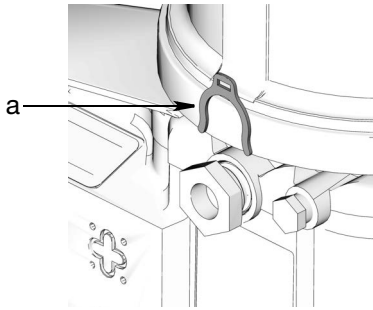

FIG. 26
- Remove plug from left side of the G3 Pump. Install pump element and 2 shims (a) as shown in FIG. 26.